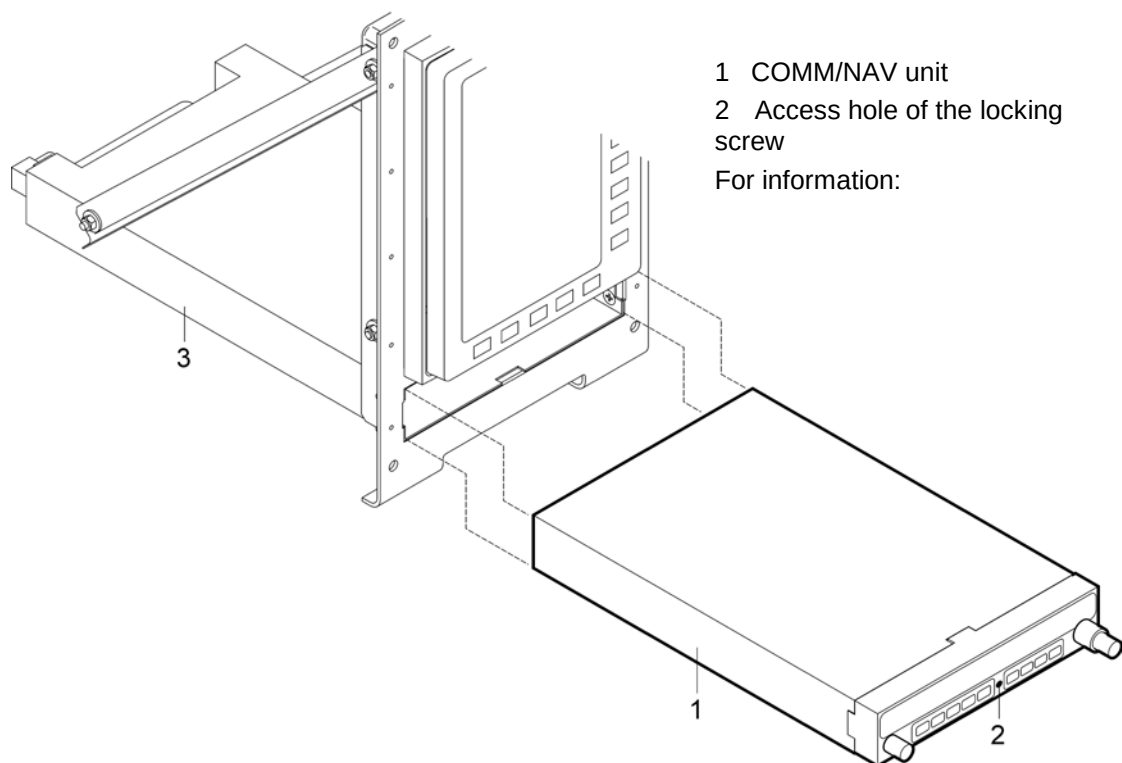

Fig. 12.3.15-1: COMM / NAV unit removal / installation
- (b) Put a 3/32 Allen wrench into the access hole (2, Fig. 12.3.15-1) for the locking screw; engage the screw.
(c) Slide the unit (1, Fig. 12.3.15-1) into the rack (3). Engage the locking screw so that the latch front lobe touches the rack.